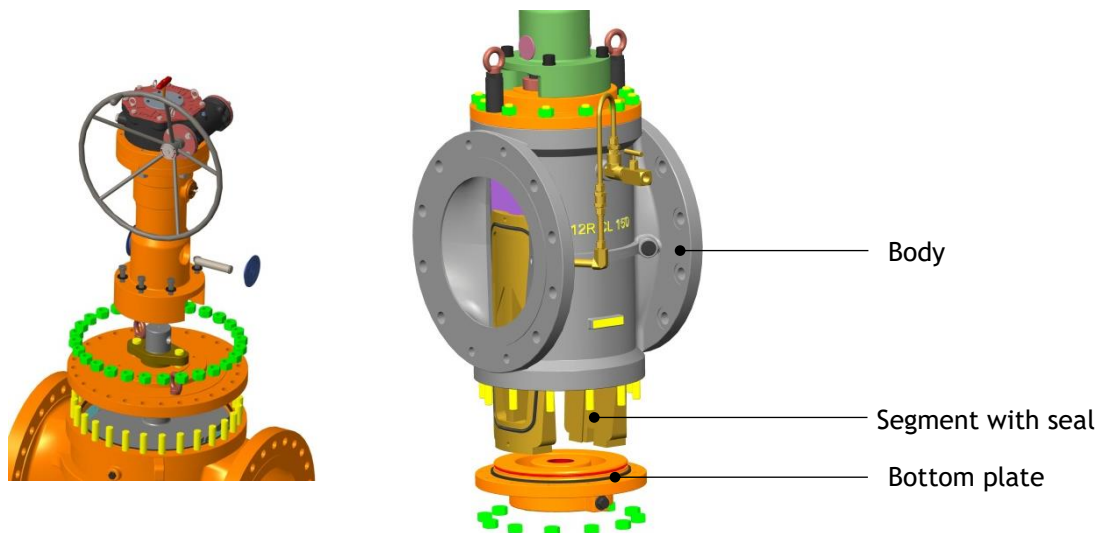

Fig. 3 Segment Replacement
- Loosen nuts in bottom plate and remove the bottom plate from valve assembly as shown in Fig. 3.
- Remove the segments from spreader with care to avoid damage in dovetail engagement as shown in Fig. 3.